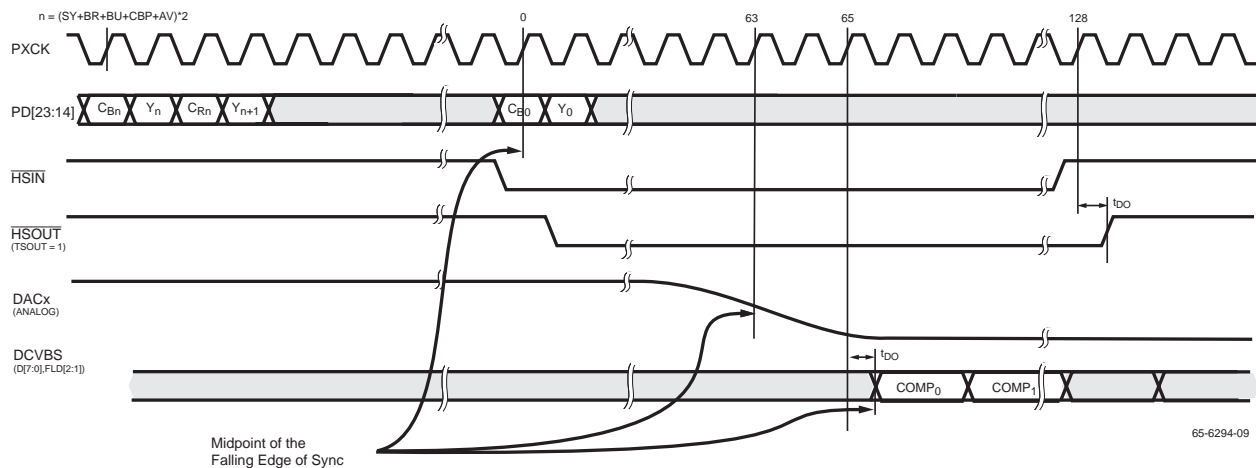

Figure 8. Propagation Delay through the Encoder
The propagation delay from the pixel data (PD) input to the D/A output is 64  $\text{PXCK}$ 's. Figure 8 shows the propagation delay for both master and slave synchronization modes. For CCIR656 data streams, pixel 736 (pixel 0 in Figure 8) is the midpoint of sync and is 32  $\text{PXCK}$ 's (24  $\text{PXCK}$ 's in PAL) after the EAV TRS.